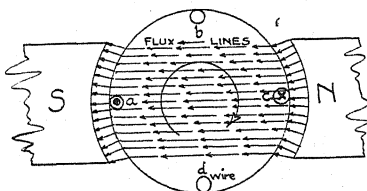
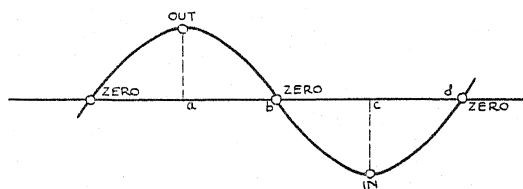

FIG. 68. All generators develop a.c. in their armatures.
FIG. 69. The graph of an alternating current.
78. Producing Alternating Current. Strange as it may at first seem, all generators, whether d.c. or a.c., really generate only a.c. inside the armature. Examine Figure 68, and the reason for this will soon be seen.
In Experiment 27, it was shown that when a wire moves upward through flux, as at a in Figure 68, the current will flow out of the wire as shown. The very same thing is true of a wire on an armature, turning in a clockwise direction, as in Figure 68. If the flux (N to S) is as shown, by applying the Right-Hand Rule for generators, the current is seen to flow as shown at a .
current in the wire. Now the generated current will flow into the page in Figure 68, position *c*. Check this with the Right-Hand Rule for generators.
| a | out of page (Fig. 68) |
81. The Commutator as an Automatic Switch. Examine Figure 68 again. Notice that when the wire turns from place *a*, to *b*, to *c*, to *d*, and to *a* again, and so on, an alternating current is generated. This whole story can best be shown by a graph, as in Figure 69. In this graph, which refers also to Figure 68, the + side of the curve represents current out of the page in Figure 68, and the — side of the curve represents current into the page in Figure 68.